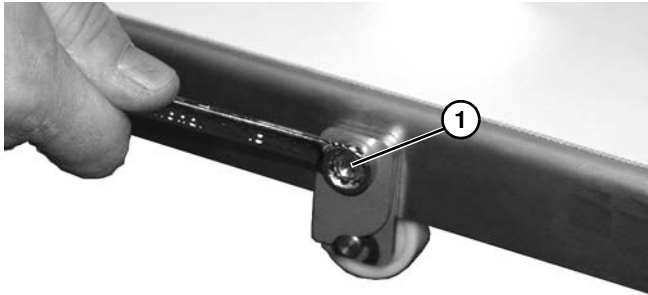

Figure 80
1. Loosen nut (Figure 80, item 1).